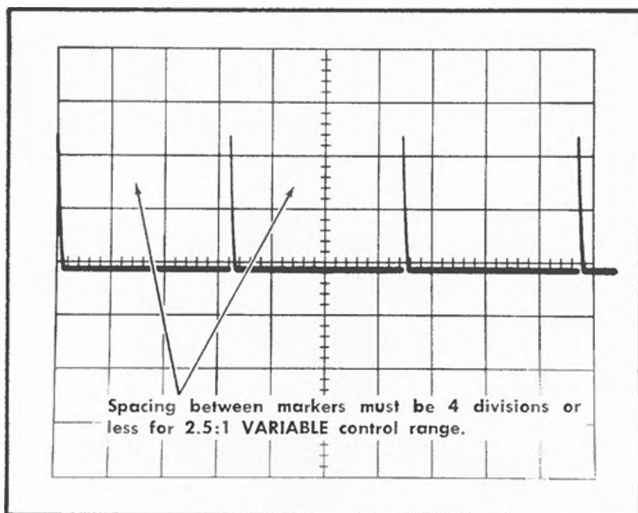

Fig. 6-46. Typical CRT display when checking VARIABLE TIME/DIV control range.
e. CHECK—CRT display for four-division maximum spacing between markers (2.5:1 range; see Fig. 6-46). UNCAL light must be on when VARIABLE TIME/DIV control is not in CAL position.